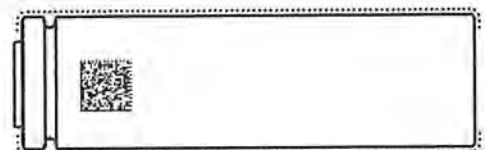

Fig.3
5.11 2Dimensional Code (Fig.3)